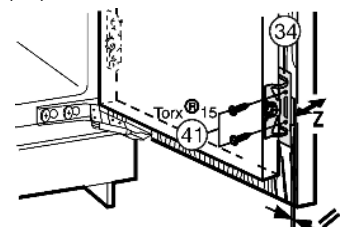

Fig. 23
- ▶ Screw the appliance door to the unit door with screws *Fig. 23 (41)* passed through the mounting brackets *Fig. 23 (34)*.